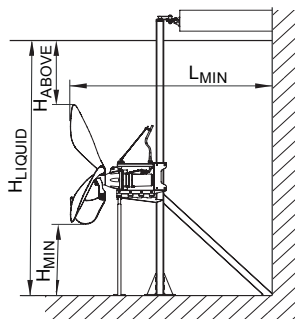

Fig. 4 Positioning sketch for flowmakers
- The distance between the propeller tip and the bottom of the tank, H_{MIN} in fig. 4, must be 50 cm.
- The distance from the propeller tip to the liquid surface, H_{ABOVE} in fig. 4, must be at least 0.75 times the propeller diameter.
- The distance between the propeller tip and the wall behind the flowmaker, L_{MIN} in fig. 4, must be at least twice the propeller diameter.